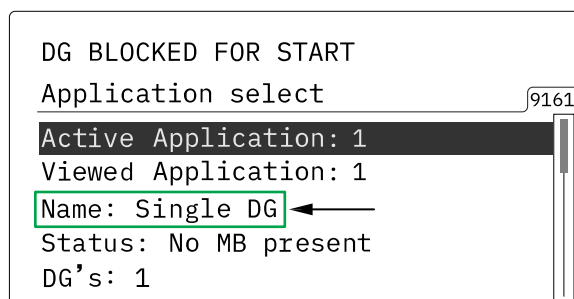
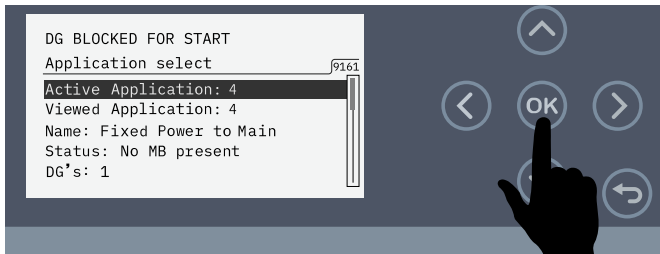

Figure 49. Active Application 1 (Single DG)
Figure 50. Select Active Application
7. Make sure **Active Application 1** (Figure 49) is displayed.
- If Active Application 1 is displayed (Figure 49), skip steps 9–12 and continue to the next section, **Starting (Semi-Auto Mode)**. If a different application is displayed, press the OK button (Figure 50) and continue to the next step.
- Confirm that **Name** is displayed as **Single DG** (Figure 49).